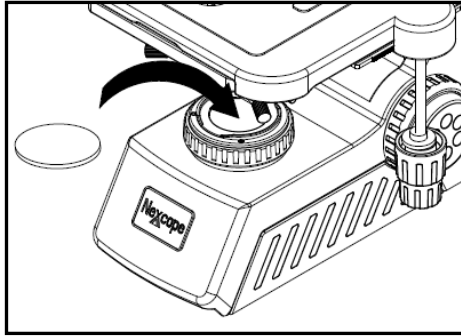

Fig.8
2.2.4 Mounting the filters (Fig.8)